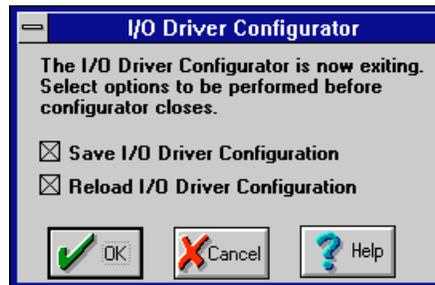

Figure 4-6 I/O Configurator - Exit Options
7. Select the Exit button, , from the top of the I/O Driver Configurator dialog box and the FIX software prompts you to select your exit options, as shown in Figure 4-6.